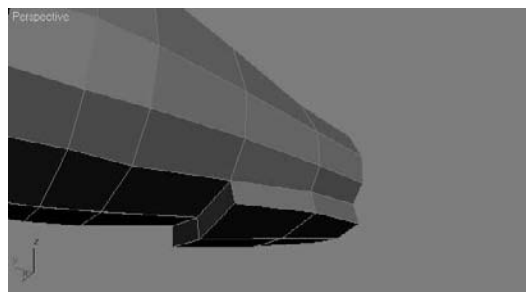

Figure 5.54
3. The extruded polygons will split at the middle where the original and mirrored reference halves of the body meet, as they did with the control panel earlier in this exercise. Move the vertices and fix the seam in the center the same way you did for the control panel. Make sure to delete the unneeded inside polygons as you did with the control panel. You can see the fixed result in Figure 5.54.